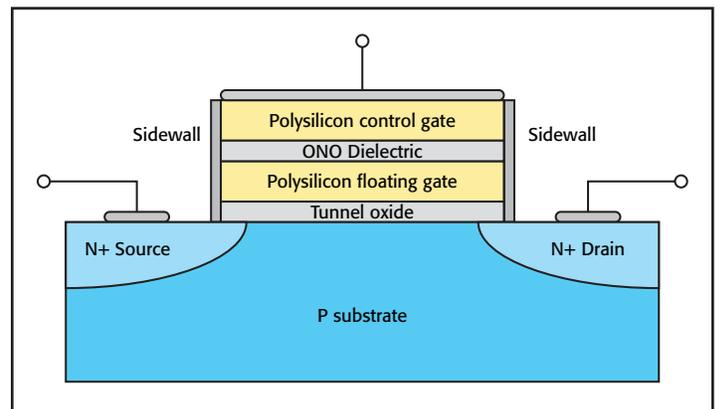

Figure 1. NAND flash memory cell cross-section
In addition to the floating gate, NAND flash memory cells (*Figure 1*) usually have a control gate, drain, source, and bulk. The memory cell is set (programmed) and reset (erased) by applying or removing charge from the floating gate. Charge can be applied or removed from the floating gate of any type of flash memory cell via Fowler-Nordheim (FN) current tunneling or via Hot Carrier Injection (HCI). In a normal CMOS transistor, both of these mechanisms cause device degradation and are usually to be avoided, but they are beneficial for flash memory. Moreover, although FN tunneling and HCI are useful for programming and erasing flash memory, they are also why flash memory cells have a limited lifetime.